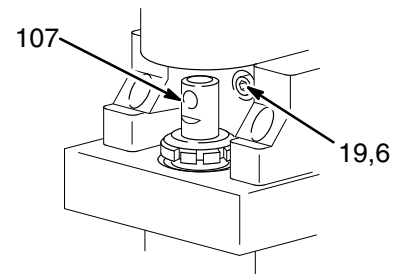
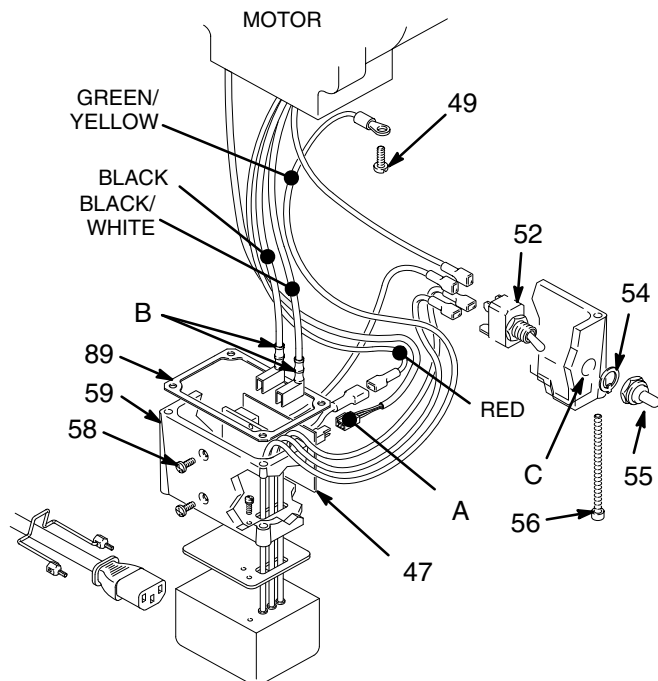

Fig. 21
Fig. 23
3. Remove the screws (56) and lower the junction box (59). Disconnect the motor wires and the pressure control wire (A) from the motor start board. Refer to Fig. 23 on page 24.
4. Remove the front cover (13).
5. Turn the displacement pump rod (107) so the pin hole aligns with the bottom drive housing screw (19). See Fig. 21. Remove the three drive housing screws and lockwashers (19,6). Also see Fig. 22.
6. Remove the two motor screws (5) and the lock washers (6).
7. Tap the lower rear of the drive housing (11) with a plastic mallet to loosen the motor. Pull the drive housing straight off the motor while guiding the harness (A) from the motor. Do not allow the gear (16) to fall. Read the CAUTION on page 25.
8. Remove the two screws (46) and lift the motor off the base (66).
9. Align the new motor with the base and reinstall the screws (46).
11. Connect the wires in the junction box. Refer to Fig. 23 on page 24. Install the junction box.
12. Connect the piston rod (107) to the drive housing; see page 22, **Installing the Pump**, Step 2 and the **WARNING** following it.
NOTE: See Fig. 23 for this procedure.
- NOTE:** See Fig. 23 for this procedure.
2. Remove the junction box screws (56) and lower the junction box (59).
3. Remove the nut and rubber boot (55).
4. Disconnect the black wires from the ON/OFF switch (52) and remove the switch.
5. Place the ring terminal of the ground wire over the barrel of the new switch. Install the switch so the internal tab of the anti-rotation ring (54) engages with the vertical groove in the threads of the switch, and the external tab engages with the blind hole (C) of the junction box.
6. Powder the inside of the rubber boot (55) with talcum, then shake the excess out of the boot. Install the nut and rubber boot and tighten.
8. Install the junction box. Be sure no leads are pinched against the motor or by the motor start board. Also be sure the gasket (89) is installed.